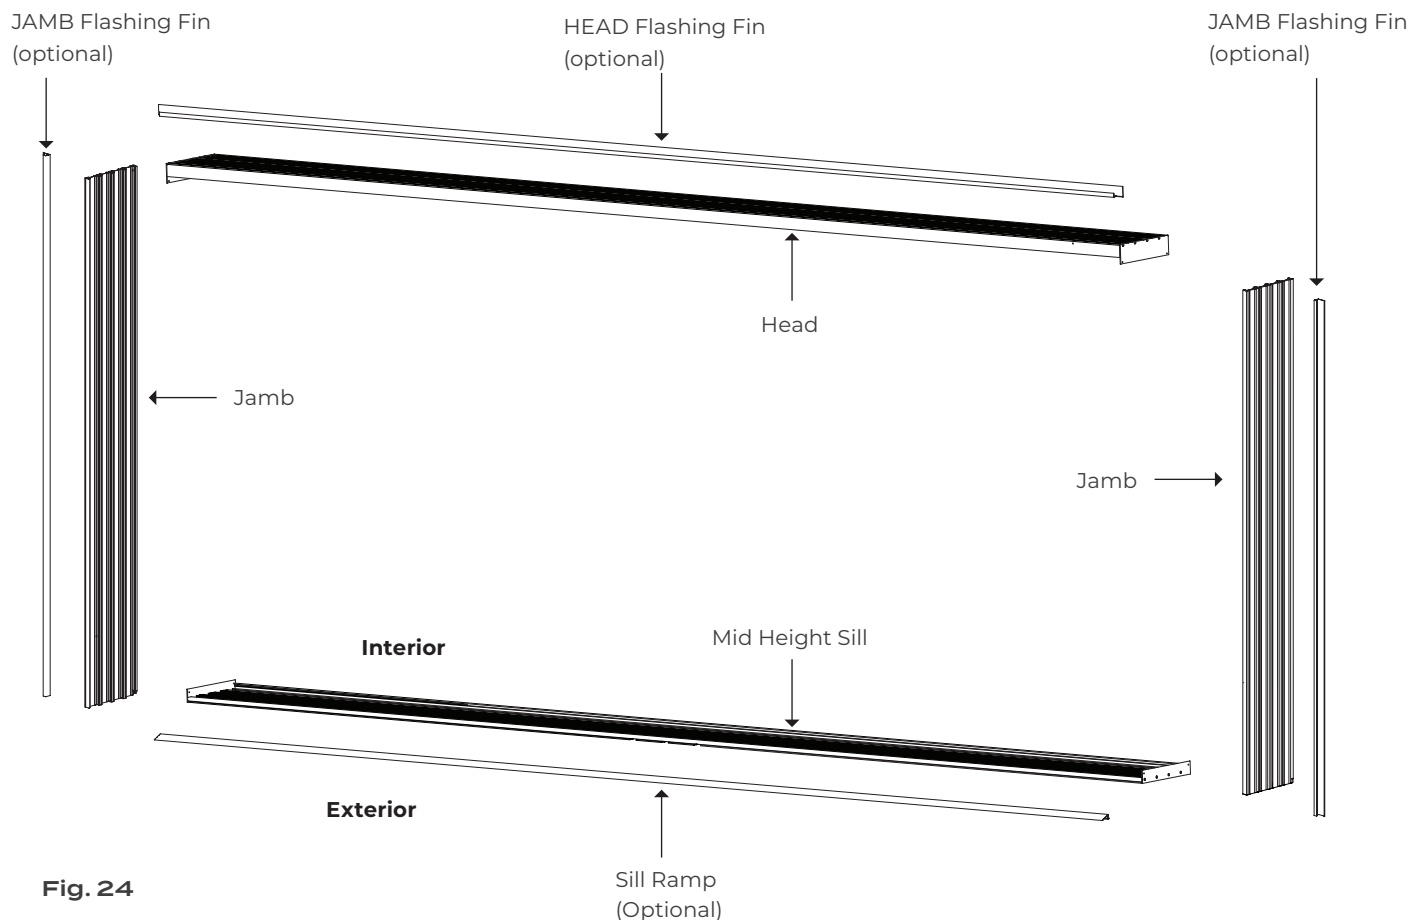

Fig. 24
- Identify frame component's features. **See Fig. 24.**